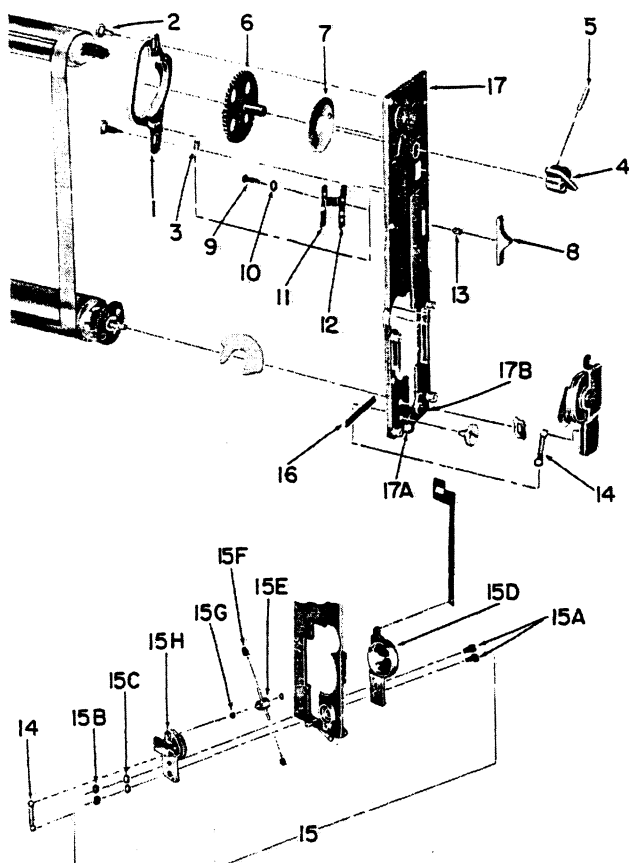
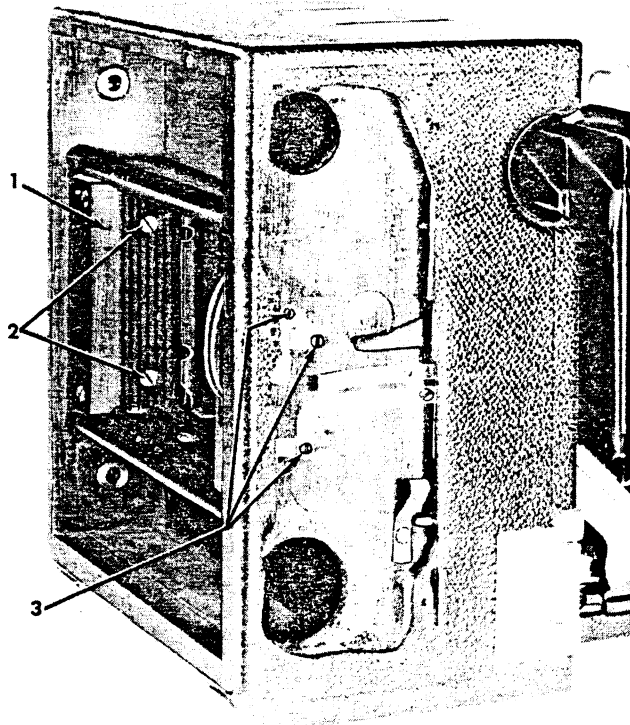

Figure 6. Shutter Plate
Figure 7. "23" Speed Contact Frame
1. Remove the slide dial (7) from the governor stud. On the "23" Speed Graphic, the slide dial is riveted to the top bracket assembly and should not be removed unnecessarily. Remove the shaft retainer screw (5) and slowly unwind the tension shaft retainer (6). Swing the retard cam lever assembly (17A, figure 6) forward to raise the governor. Remove four wood screws (8, figure 2) and lift the shutter mechanism plate assembly (4) from the camera.
(a) Escapement, Master Gear, Winding Key. The escapement (1, figure 6) is secured by two escapement screws (2). Remove and unhook the escapement spring (3). Remove the taper pin (5), the winding key assembly (4) and then the master gear assembly (6) from the inside. Lift the shutter dial (7) from the inside.
1. To remove the curtain and rollers assembly (9, figure 2) it will be first necessary to tear out the tension roller seal (10), cemented around the lower tension roller gear. This seal is no longer considered necessary and can be discarded since light seals (4, figure 6) and (16, figure 7) are sufficient protection. Shift the curtain and roller assembly to the right out of the camera case bearings and lift from the camera case. Do not loose spacer washers that may or may not be used to prevent too much end play of the rollers. Do not disassemble the rollers from the curtain unless necessary. In the case of a defective roller, replace as a unit. . . do not disassemble.
1. Shutter Plate Cover. Examine the shutter plate cover (1, figure 2) for dents that will obstruct the working of the dial slide (7) or governor assembly. Using a stiff brush, brush the fabric dust seal (4, figure 6) to remove dust and grit that may have collected.
2. Shutter Mechanism Plate Assembly. Clean all parts of the shutter plate (figure 7) with solvent, trichlorethylene (AN-T-37a). Dry all parts thoroughly before reassembly. Check the springs (3 and 4); replace if stretched or deformed. Inspect the gears for worn teeth and loose stop pins.
Key to Figure 6.
4. Contacts. Check the height of the receptacle contact (27, figure 10) and the receptacle jumper (28). Both of these must be arched above the wood surface at least $\frac{3}{16}$ inch so that they will make positive contact with the receptacle contact studs (1, figure 6). Check the curvature of the spring finger contact (13, figure 2); these contacts should be arched evenly not more than $\frac{5}{32}$ inch above the block. If the short and long switch contacts (30 and 91, figure 10) are causing an electrical short, remove the body release plate assembly (34), paragraph VII.A. and replace the contacts.
3. Shutter Mechanism Plate Reassembly. If the governor assembly (15, figure 6) has been dismantled, lubricate by wiping the outside ends of the governor shoes (15) and governor pinion assembly (15E) with graphite powder, AN-G-24. The governor shoes must slide freely on the cross shaft of the pinion assembly. Reassemble the governor as follows:
c. Rotate the winding key until "0" appears squarely in the upper half of the speed shutter dial window (7, figure 7) when the upper master gear pin is stopped against the top step of the escapement (1).
d. With the bottom strut of the curtain 1/4 inch from the upper, inside edge of the frame, position the shutter mechanism plate assembly (4, figure 2) over the pinion ends of the curtain rollers (9). The escapement actuating lever of the concealed body release plate must contact the bottom stud of the escapement assembly (1) and the shutter selector shift slide and the shutter selector lever of the concealed body release (located near the middle) must contact the bottom shift plate slide (12, figure 7). The gear of the top roller meshes with the master gear assembly (6).
e. Swing the retard cam lever assembly (17A) forward to raise the governor assembly (15). Drop the bearing shaft of the tension roller in the lower bearing hole of the plate. At the forward edge of the plate is a narrow cut-out which fits with a raised lip of the concealed body release plate.
(c) On "45" cameras, remove four machine screws (36). On "23" and "34" cameras, remove the four wood screws (2, fig. 7) holding the frame and contact assembly (1).
Note: If it is found difficult to remove the frame and contact assembly do not attempt to force the frame out. This can be remedied by removing the shutter plate (4, figure 2), as described in paragraph IV.V. and partially unscrewing the contact screws (3, fig. 7).